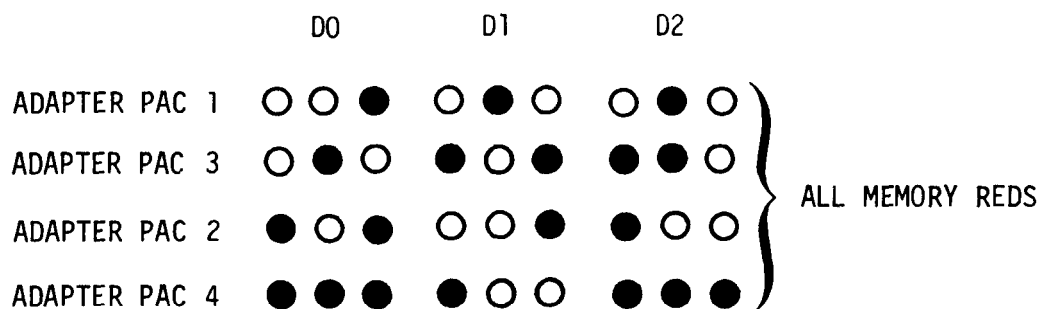

Figure 4-3. Red Error Indications
f. When the total number of indicators lit in groups D1 and D2 equals an EVEN number, it means a double-bit memory red error combination (fig. 4-3).
g. Red errors are not correctable. The adapter pac indicated by the light combinations shown in figure 4-3 should first be replaced by a known good board to make sure that you have isolated the correct fault, and to avoid replacing the controller board if possible. There are only two exceptions (fig. 4-4) to the EVEN number rule.